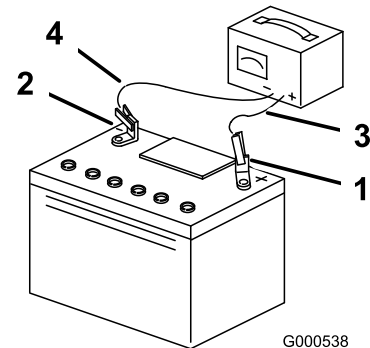

Figure 52
3. When the battery is fully charged, unplug the charger from the electrical outlet, then disconnect the charger leads from the battery posts (Figure 52).